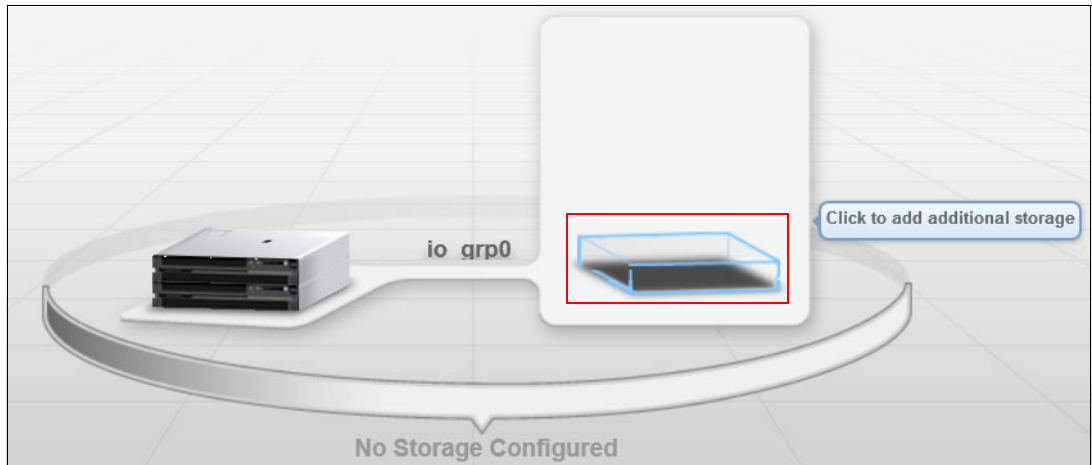

Figure 6-23 Add AE2 storage enclosure
1. Click the AE2 storage enclosure (Figure 6-23), which automatically starts the wizard.